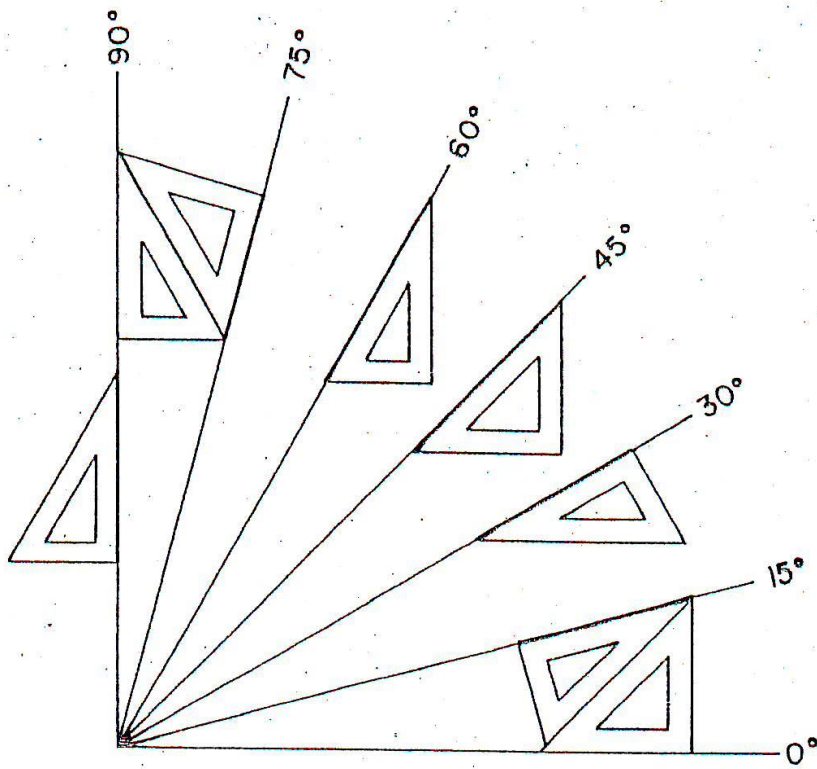

Fig 1
1. Use the established center point and lines as a reference point from which two standard triangles can be used to find the first 15° angle. (Figure 1)
Examples of multi view Fig 1